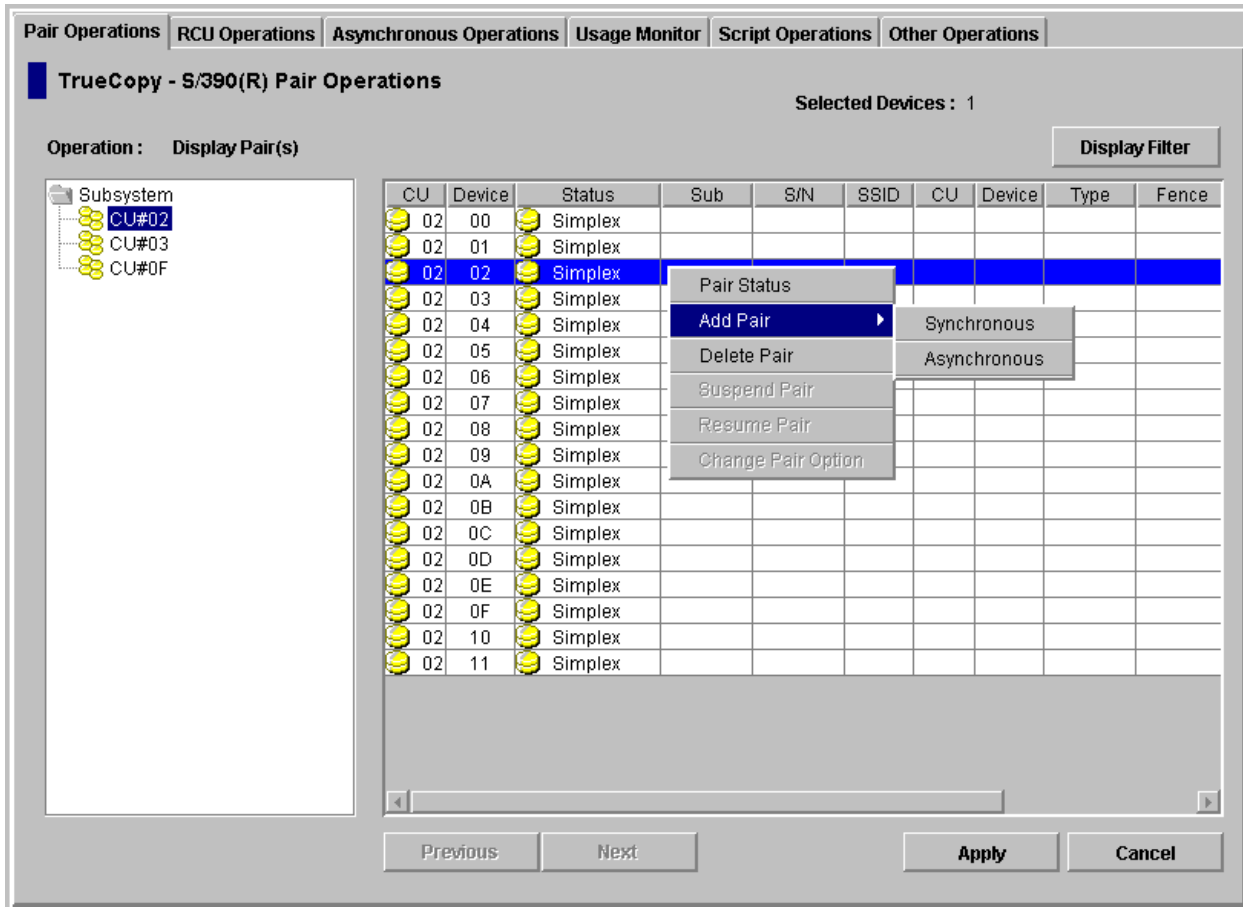

Figure 5.2 Pop-up Menu for the Pair Operations Tab
3. Right-click on the selected LVI(s)/pair(s) to display the pop-up menu (see Figure 5.2):